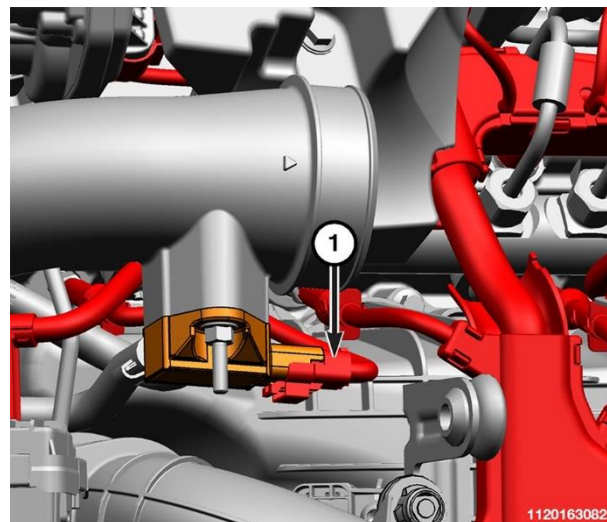

Figure 116 – Pressure Sensor Connector
43. Disconnect the differential pressure sensor wire harness connector (1) (Figure 116).